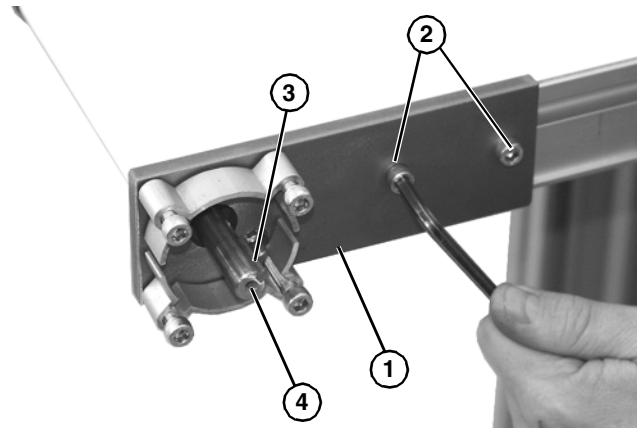

Figure 4
4. Install coupling mounting plate (Figure 4, item 1) with two M6x25 socket head screws (Figure 4, item 2). Tighten screws to 60 in-lb (7 Nm).
5. Making sure key (Figure 4, item 3) is installed in slot in gear reducer output shaft assembly (Figure 4, item 4).